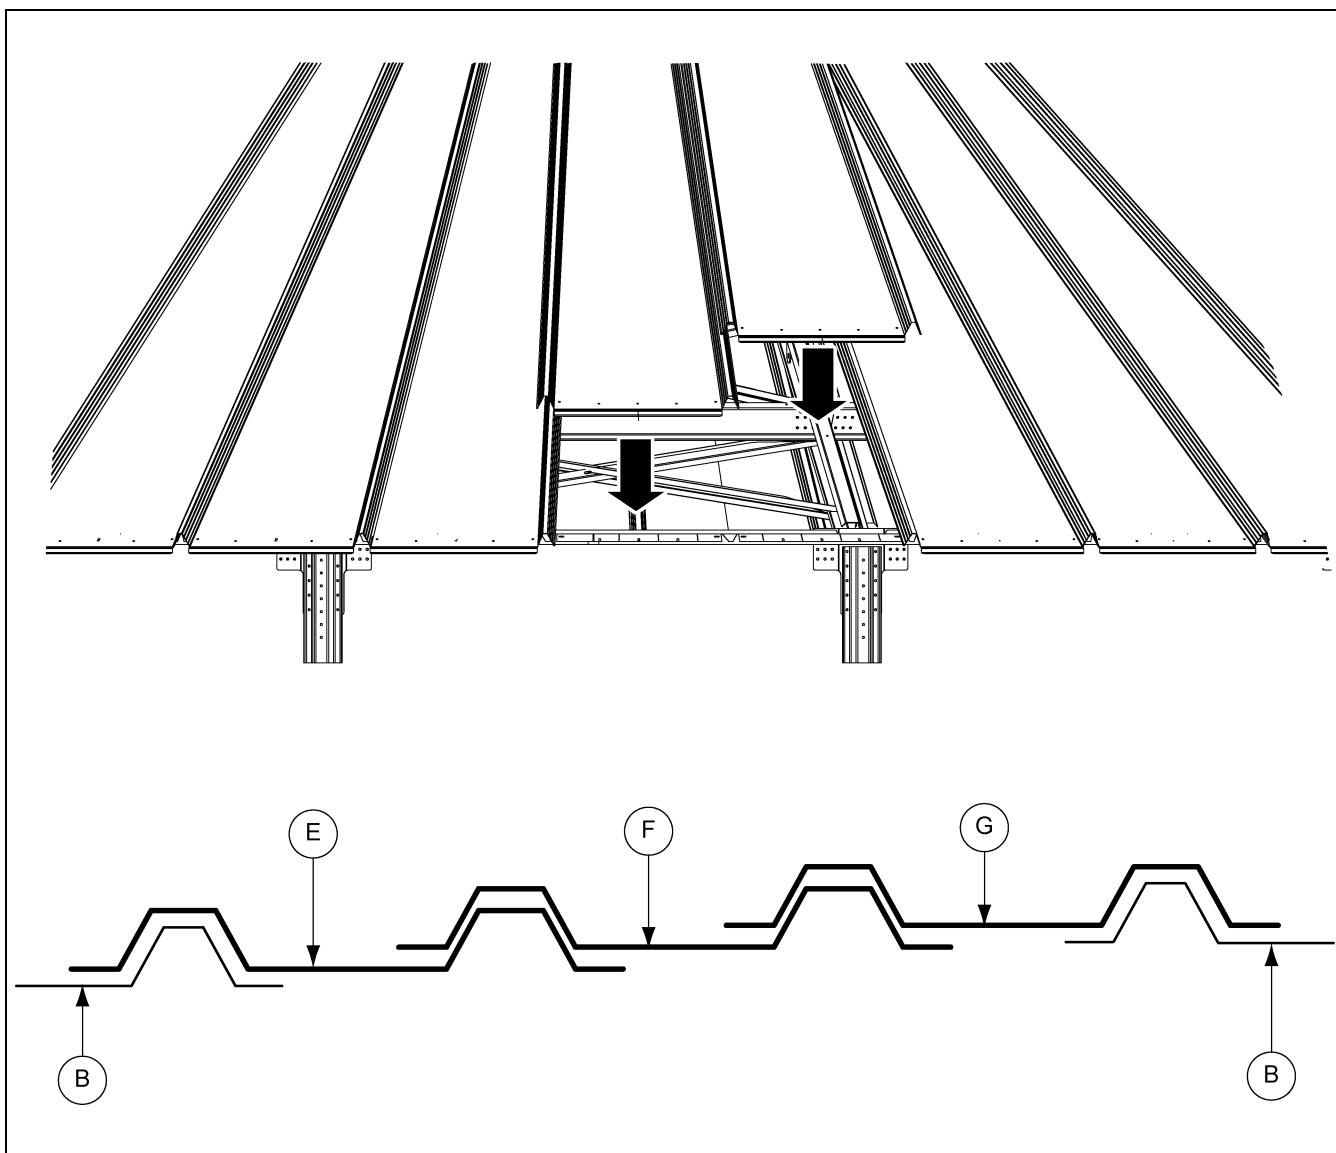

Figure 4 *Installing the Vent Panels*
6. Repeat the Steps 1-5 to position and secure the third roof vent/explosion panel over (on top) of the second roof vent/explosion panel. (See Figure 4 on Page 5.)